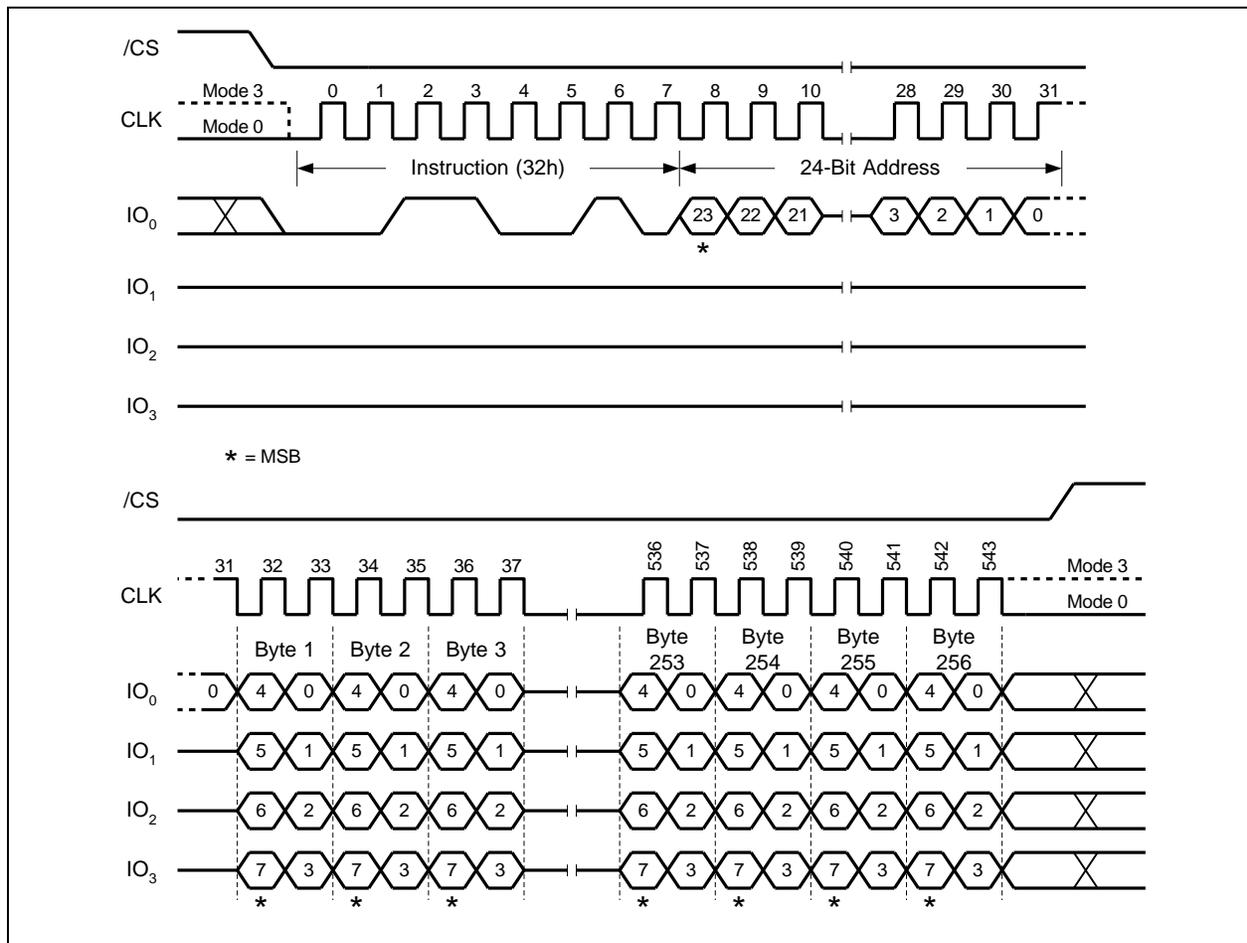

Figure 30. Quad Input Page Program Instruction (SPI Mode only)
To use Quad Page Program the Quad Enable (QE) bit in Status Register-2 must be set to 1. A Write Enable instruction must be executed before the device will accept the Quad Page Program instruction (Status Register-1, WEL=1). The instruction is initiated by driving the /CS pin low then shifting the instruction code “32h” followed by a 24/32-bit address (A23/A31-A0) and at least one data byte, into the IO pins. The /CS pin must be held low for the entire length of the instruction while data is being sent to the device. All other functions of Quad Page Program are identical to standard Page Program. The Quad Page Program instruction sequence is shown in Figure 30.